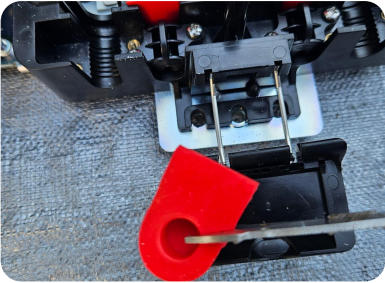

Fig. 4a
- Cut a slot on one side of the cable grommet as shown in Fig. 4a and 4b.